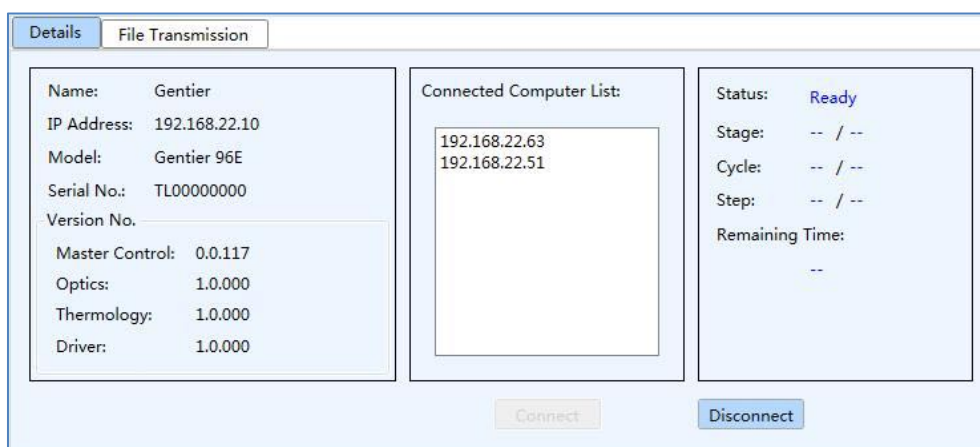

Figure D-3.2c Instrument Management interface - Details tab
- **Details** tab: includes three information areas and two function keys, as shown in figure D-3.2c.